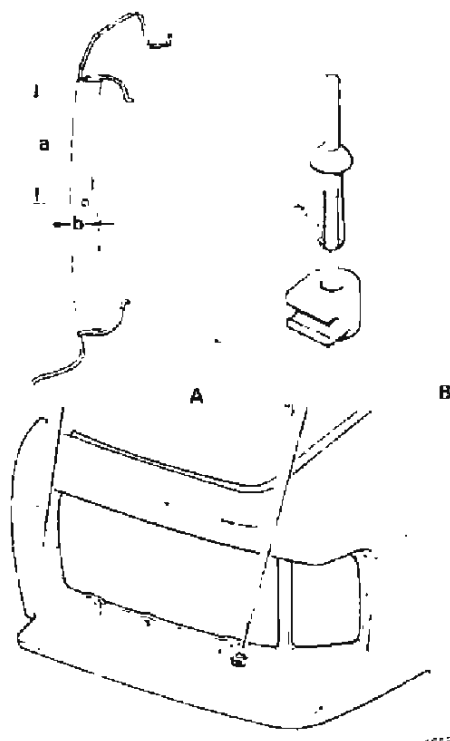

Fig. 1
- 6 Fit the new clips to the headlamp aperture as shown in figure 1, inset B. The retaining pegs should be tapped firmly home to avoid a foul with the headlamp unit.
- 8 Fit the clips to the back of the new headlamp finishers using the same method as shown in figure 1, inset B.